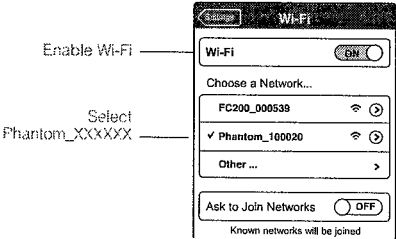

Figure 45
- (1) Power on the Remote Controller and the Range Extender.
- (2) Power on the Phantom 2 Vision+.
- (3) Enable the Wi-Fi on your mobile device; wait for about 30 seconds, and then select "Phantom\_XXXXXX" from the Wi-Fi network list (Figure45).